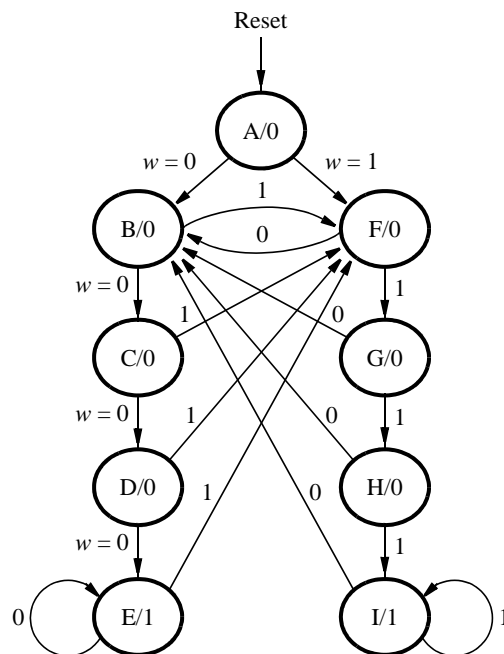

Figure 2: A state diagram for the FSM.
A state diagram for this FSM is shown in Figure 2. For this part you are to manually derive an FSM circuit that implements this state diagram, including the logic expressions that feed each of the state flip-flops. To implement the FSM use nine state flip-flops called y_8, \dots, y_0 and the one-hot state assignment given in Table 1.
For this part you are to write another style of VHDL code for the FSM in Figure 2. In this version of the code you should not manually derive the logic expressions needed for each state flip-flop. Instead, describe the state table for the FSM by using a VHDL CASE statement in a PROCESS block, and use another PROCESS block to instantiate the state flip-flops. You can use a third PROCESS block or simple assignment statements to specify the output z . To implement the FSM, use four state flip-flops y_3, \dots, y_0 and binary codes, as shown in Table 3.
4. To examine the circuit produced by Quartus II open the RTL Viewer tool. Double-click on the box shown in the circuit that represents the finite state machine, and determine whether the state diagram that it shows properly corresponds to the one in Figure 2. To see the state codes used for your FSM, open the Compilation Report, select the Analysis and Synthesis section of the report, and click on State Machines.